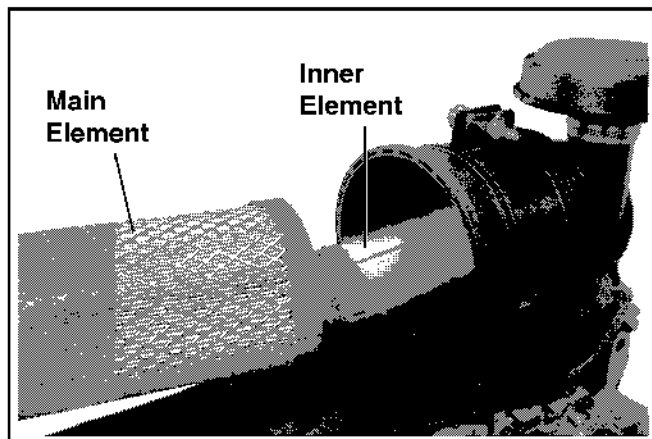

Figure 14. Removing Elements.
2. Pull the air cleaner element out of the housing. See Figure 14.